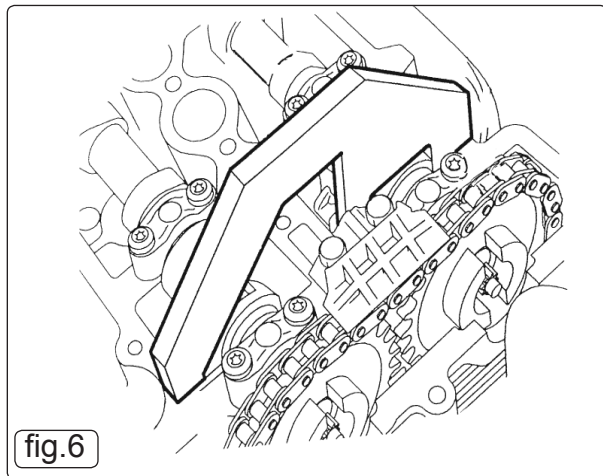

fig.6
- 4.2.1 The VS4551 Setting Plate is located on the inlet camshaft in the position shown in Fig.6.